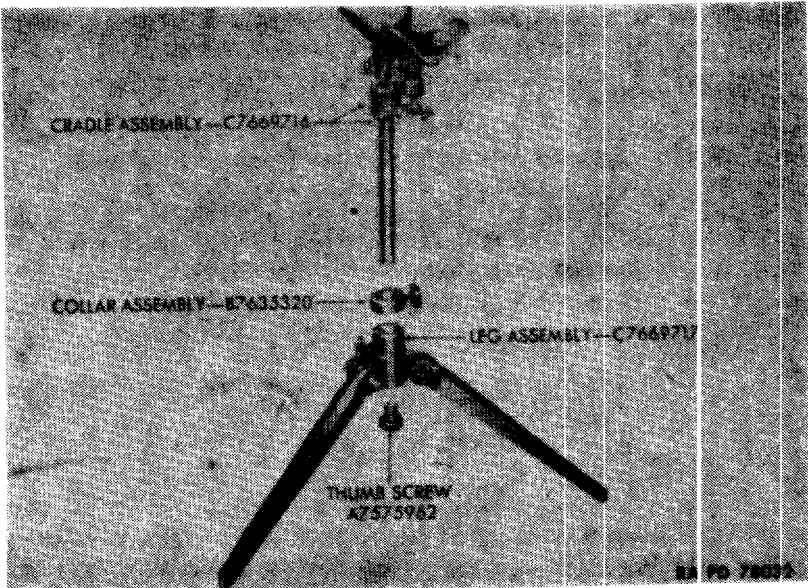

Figure 25-Tripod M15-Partially Disassembled
**a. General.** Tripod M15 comprises three subassemblies: cradle assembly, collar assembly, and leg assembly. To break the tripod down into these subassemblies: Remove thumbscrew A7575962. Loosen the clamping thumbscrew in the leg assembly, and remove the cradle assembly from the leg assembly. Loosen the thumbscrew in the collar assembly and slide that assembly off the cradle assembly shaft (fig. 25).